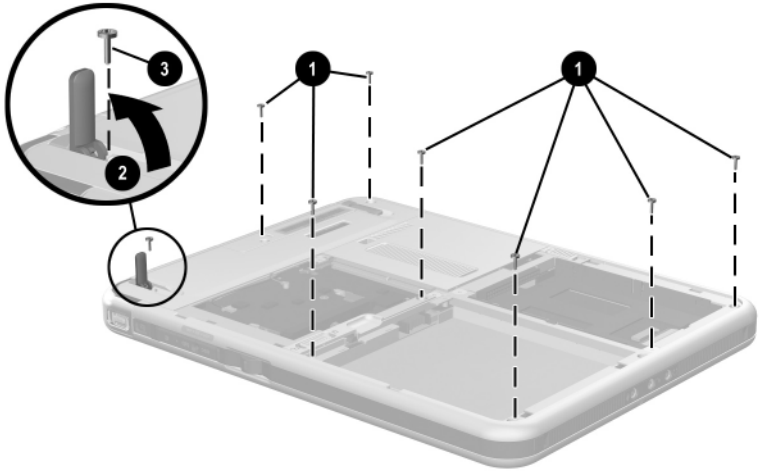

Figure 5-9. Removing the Display Panel Assembly Screws
3. Remove the seven TM2.5 × 7.0 screws ❶ that secure the display panel assembly to the tablet PC (Figure 5-9).
4. Open the bottom tilt foot ❷ and remove the TM2.5 × 7.0 screw ❸ that secures the display panel assembly to the tablet PC.